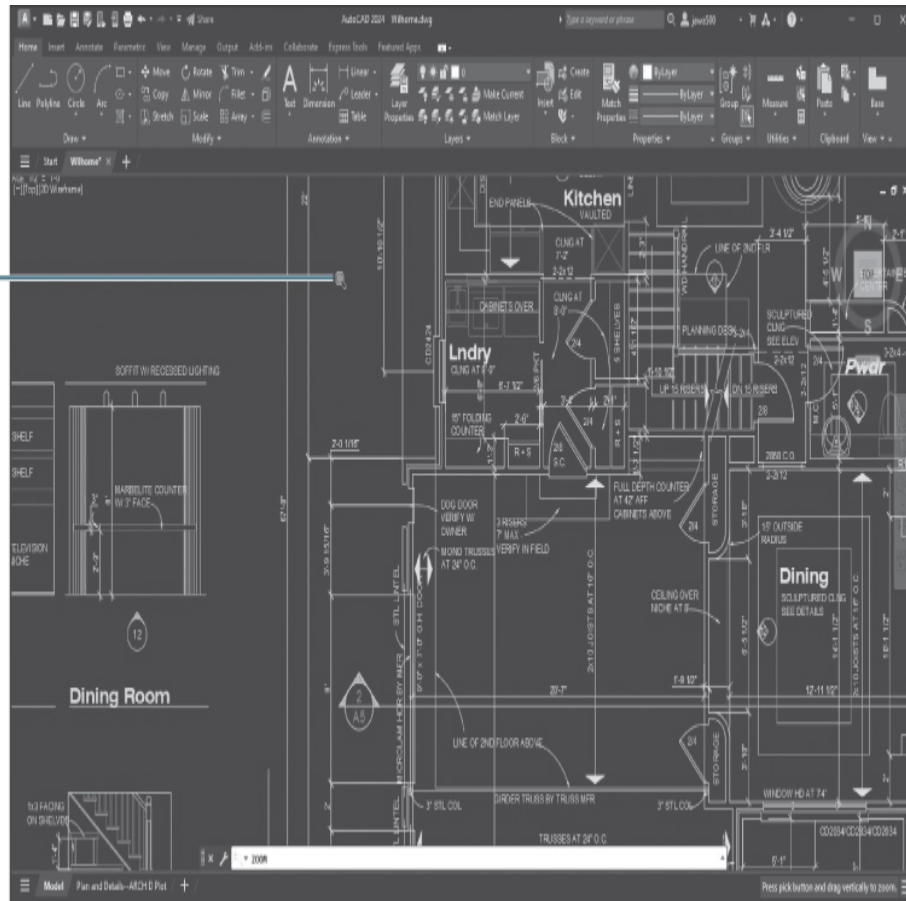

Figure 3-7
- 7** Release the mouse button when the mouse pointer reaches the top of the drawing display window (see Figure 3-7).